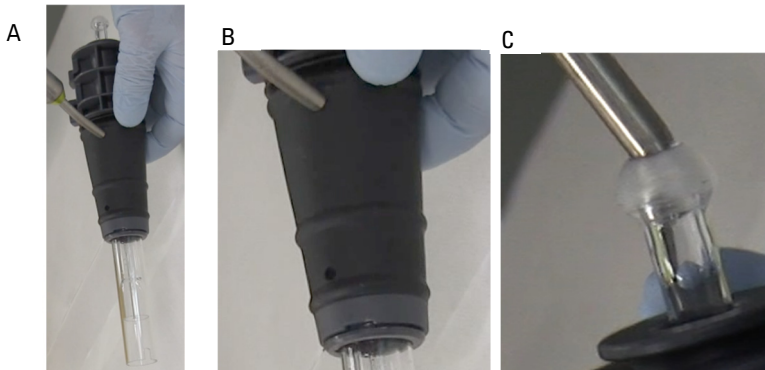

Figure 16. A. Drying the torch upper gas supply port. B Close-up shows drying through the lower gas supply port. C. Close-up shows drying through ball joint.
- 1 Blow clean compressed air or nitrogen through the quartz tube, injector, torch body and the three gas holes (see Figure 16) to remove moisture.